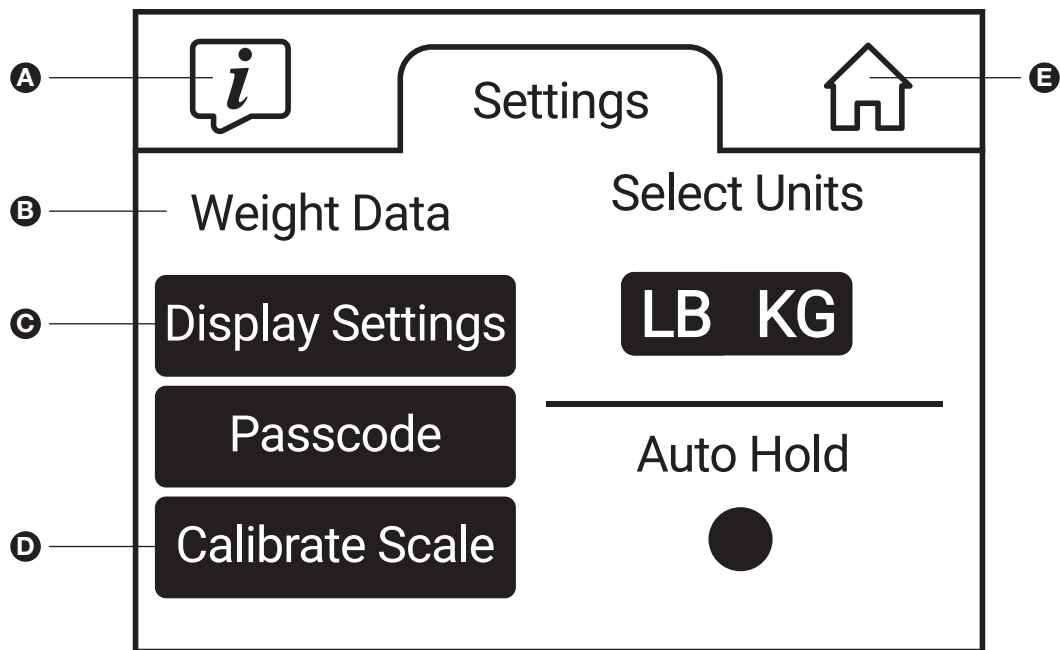

Figure 4
3. Press the checkmark icon . The Settings Menu will appear on screen (Figure 4).